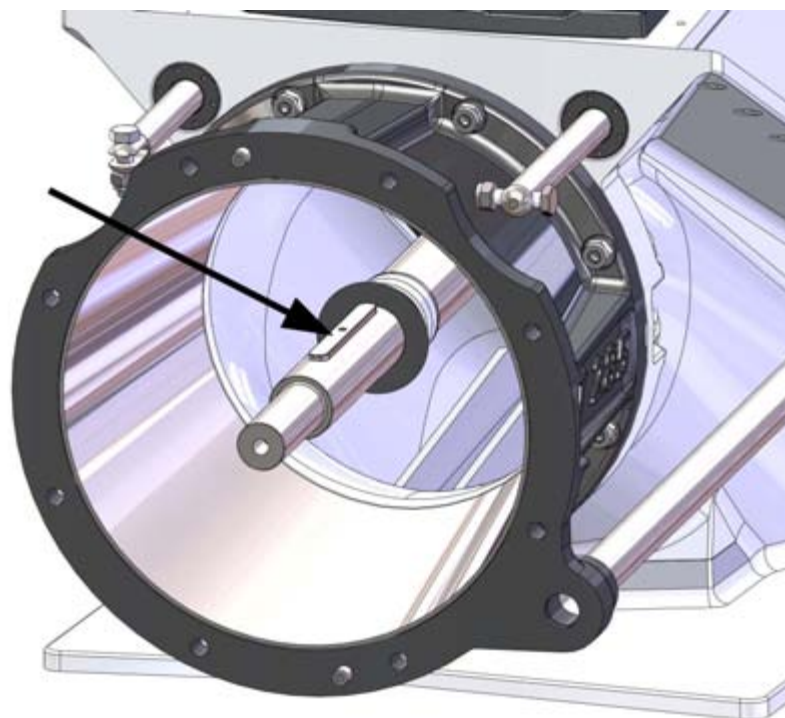

Figure 43. Keyway
6. Once you have found the right adjuster sleeve length, place the key lubricated with waterproof petroleum jelly (such as Shell Gadus S2 V220AC or similar) in the shaft keyway (figure 43) and push the impeller onto the shaft against the adjuster sleeve.